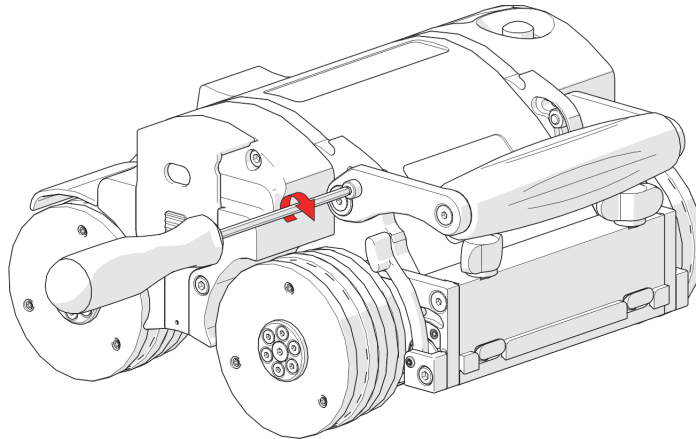

Figure 2-16 Tighten lock screws
3. Tighten the handle lock screws when complete (see Figure 2-16 on page 57).